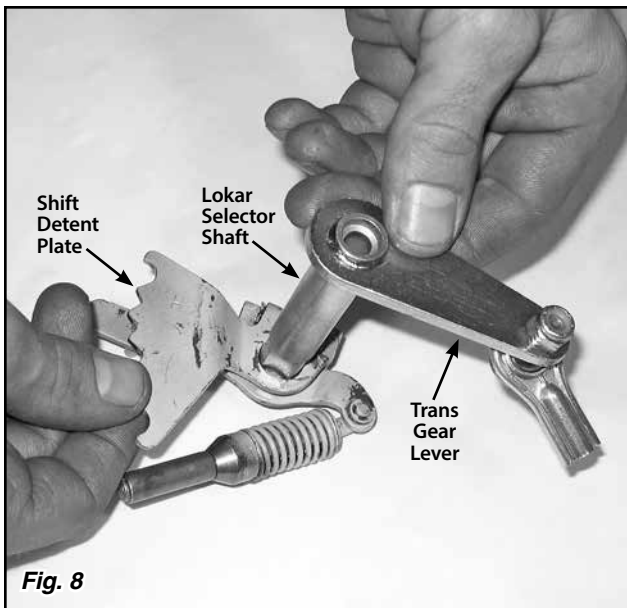

Fig. 8
Step 6: Remove the twist tie and O-rings from the new selector shaft and set the O-rings aside. Check the fit of the detent plate to the new selector shaft. **Fig. 8** The original selector shaft had a small section of splines, and the new selector shaft has a flat machined in it instead.